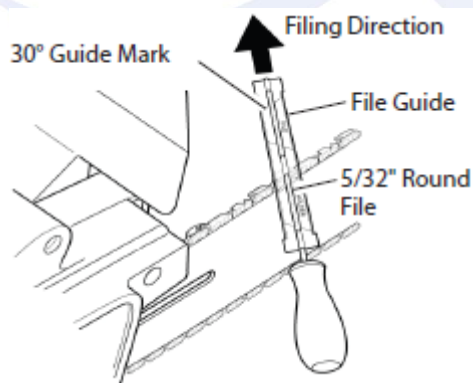

Fig.14
3. Press 5/32" round fi le (attached to fi le guide) into groove between top plate and depth gauge on chain. File guide should rest on both top plate and depth gauge (see **Fig.14**). (Note: File at midpoint of guide bar.)